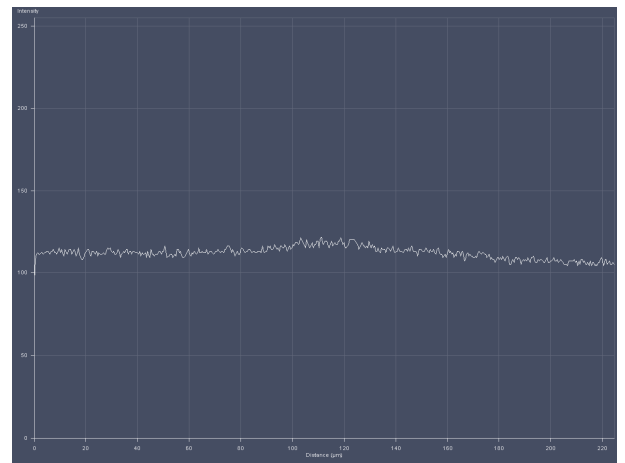

Fig. 9-16 Line diagram near the lower cover slip surface
- If the focus position approaches the lower cover slip surface, the position of the line will shift to higher values (Fig. 9-16).